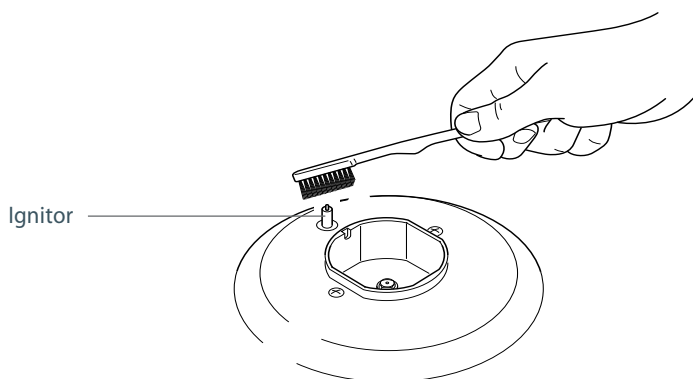

Fig. 26 Cleaning the ignitor
- The ignitors are sparking. If the ignitors are not sparking, they may be dirty or wet. Clean them with a toothbrush and methylated spirits, as shown in Fig. 26.
- Check that the ignitor is always clean to ensure trouble-free sparking. Clean it carefully with a toothbrush and methyated spirits (see Fig.26).